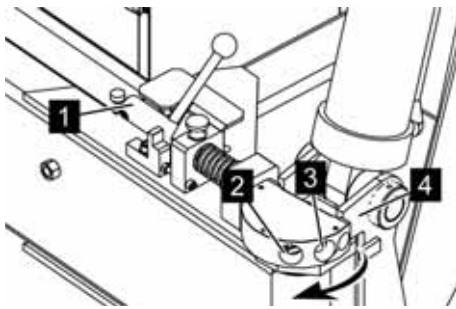

Fig. 59: Working positions
3. ➔ Swivel the outrigger (Fig. 59/4) far enough that the latching bolt (Fig. 59/1) is in front of the hole for the narrow (Fig. 59/3) or wide (Fig. 59/2) working position.